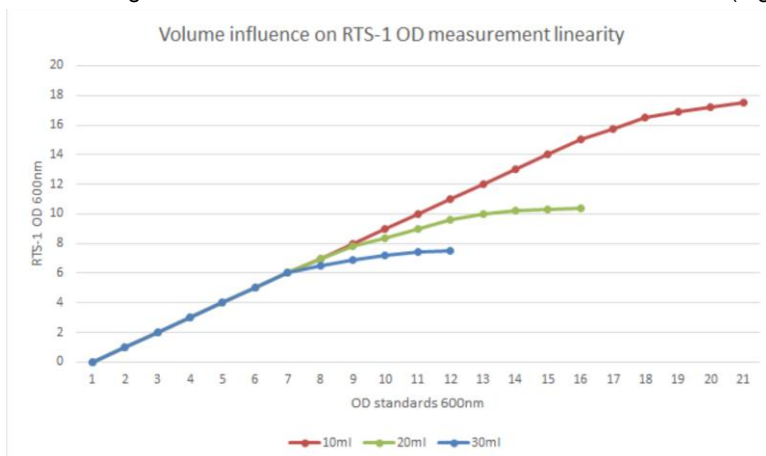

Fig 7. Influence of Broth medium volume on linear range of OD measurement ($\Delta\text{OD}(\lambda=850\text{nm})/\Delta t$) vs Time of fermentation (hrs).
7.5. Linear range of OD measurement as a function of medium volume (Fig. 7)
As can be seen from Fig. 7, the device registers optical density of the sample in linear range until 15 OD ($\lambda = 600 \text{ nm}$) at a volume of 10 ml, 8 OD ($\lambda = 600 \text{ nm}$) at 20 ml and 6 OD ($\lambda = 600 \text{ nm}$) at 30 ml.